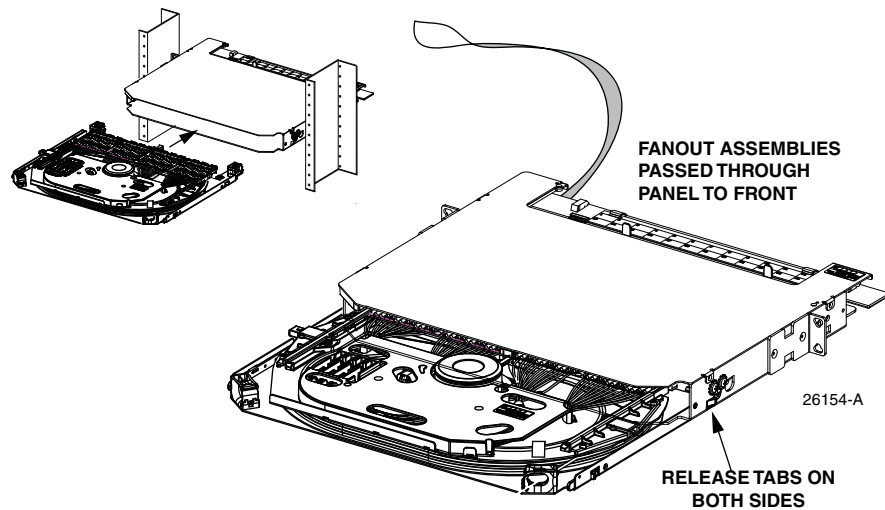

Figure 24. Inserting Cable Spool Tray Into Rear Side of Panel
- d. Guide the fanout assemblies or cabled module(s) into the empty panel (from rear side) and pull them through to the front as shown in Figure 24. It may be necessary to flatten the assembly within the pulling sock to allow it to pass through the panel.
- e. Align the cable spool tray with the mounting slot, as shown in Figure 24, and carefully slide the spool tray into the mounting slot until the stop is reached.
- f. Press the black release tabs on both sides of the panel, as shown in Figure 24, and then continue sliding the RapidReel cable spool tray into the mounting slot until it locks into place.